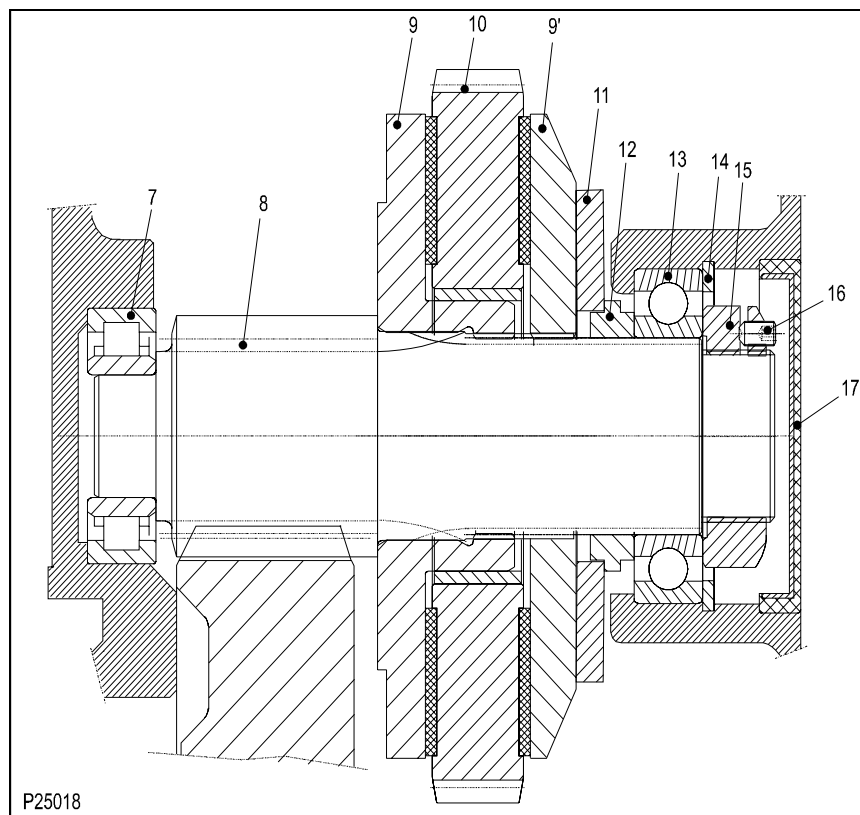

FIGURE 5.4
5.3 Torque Limiter (Refer to Figure 5.4)
Torque Limiter Adjustment (Refer to Figure 5.4)